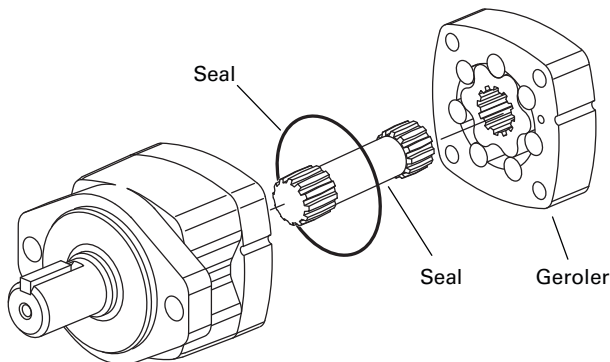

Figure 7.
15. Remove the 76,0 [3.00] diameter seal from wear plate, see Figure 7.